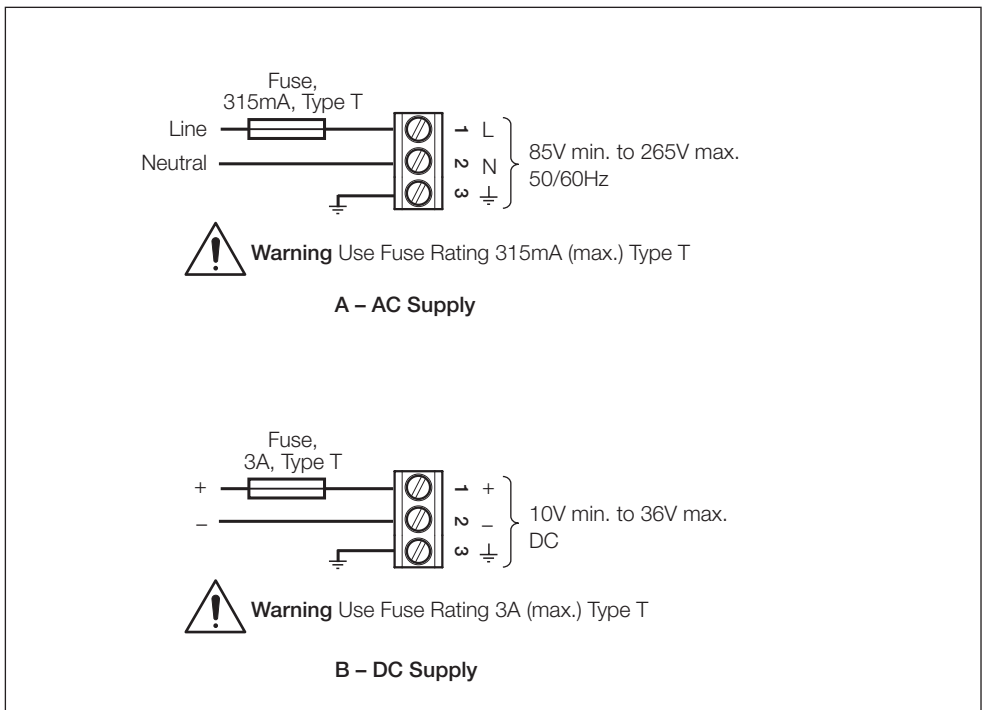

Fig. 2.10 Power Supply Connections
- The instrument is not fitted with a switch therefore a disconnecting device such as a switch or circuit breaker conforming to local safety standards must be fitted to the final installation. It must be fitted in close proximity to the instrument within easy reach of the operator and must be marked clearly as the disconnection device for the instrument. A fuse must be fitted in accordance with Fig. 2.10.
2.5 Mains Power Connections – Fig. 2.10